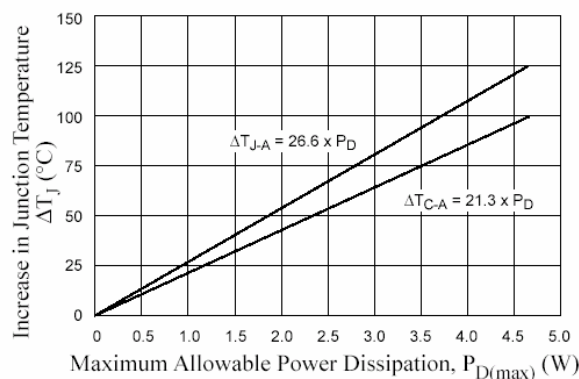

Figure 13. Temperature increase
Based on the P_D calculated using the above formulas, the expected increase in operating junction temperature, ΔT_J , of the IC can be estimated using figure 13. This result must be added to the worst case ambient temperature when operating, $T_{A(max)}$. Based on the calculation, there is no problem unless $T_{A(max)} + \Delta T_J > 150^\circ\text{C}$.
5. Refer to figure 13 and locate the value found in step 4 on the ΔT_{CA} trace.